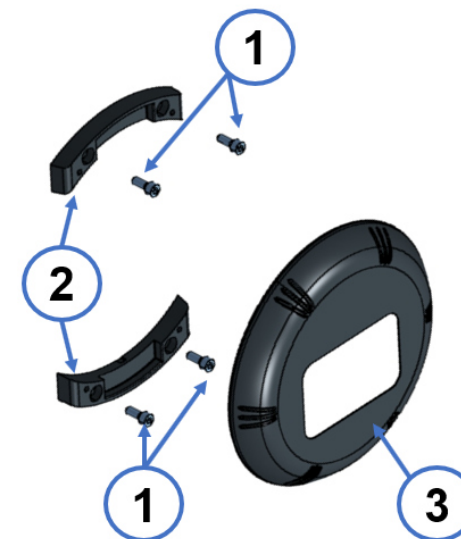

Figure 4
- 1.7. Place the two internal support (2) as per fig. 4 and fix them using the provided AISI 316 screws (self-screwing, \varnothing 6.3mm, length 32mm, not supplied)